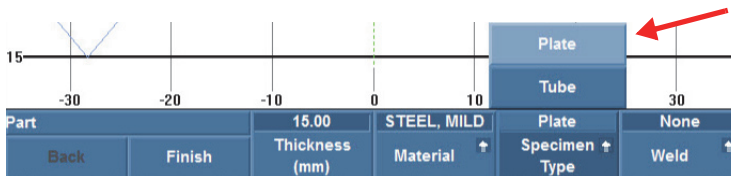

Figure 2-1 Selecting Plate in the Specimen Type field
- Select **Plate** in the **Specimen Type** parameter field (see Figure 2-1 on page 24).